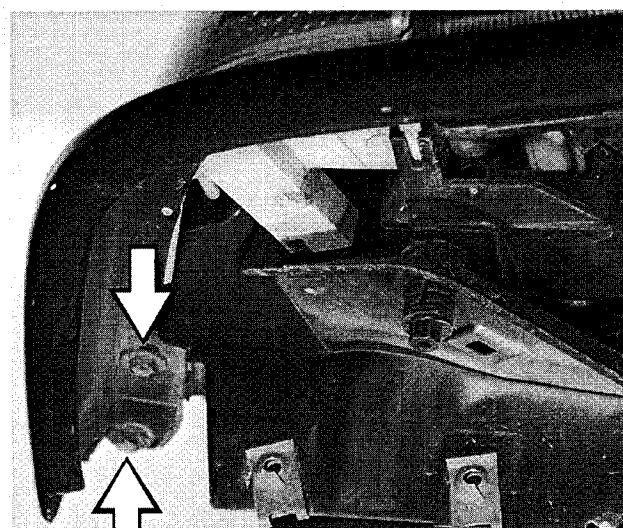

Fig. 1. Front grille panel to front fender retaining bolts (arrows). Front bumper shown removed.
4. Working at front corner of fender, remove front grille panel bolts (2 bolts at left and right). See Fig. 1.